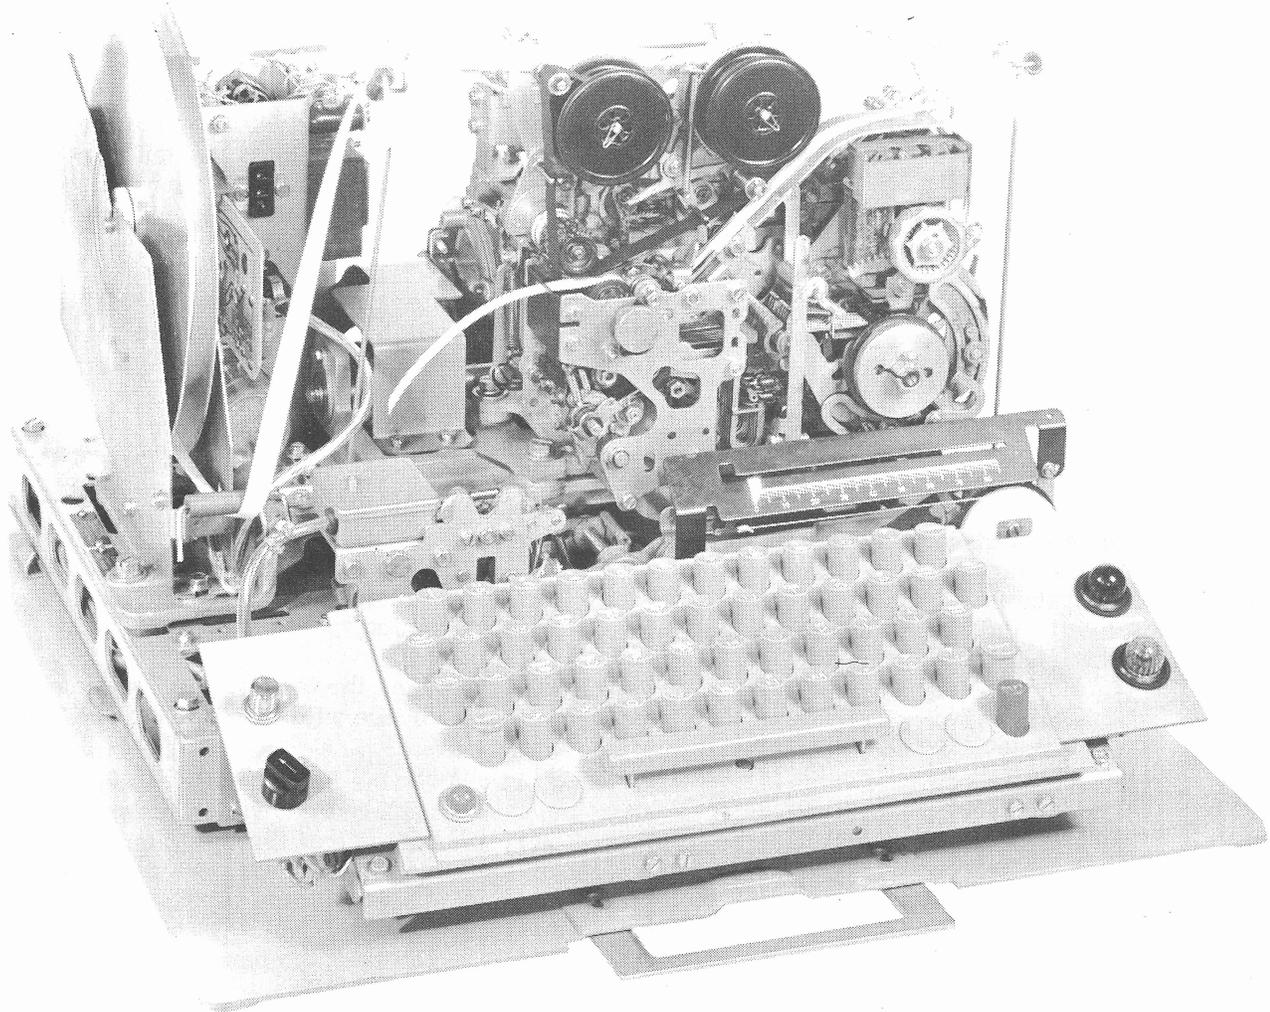

Figure 1 - 35 Keyboard Send-Receive Tape Printer Set (Without Cover)
2.09 Route the tape as shown in Figure 1. Operate the unit. If necessary, bend the tape guides until the tape travels over the approximate center of the rollers and feeds smoothly without binding.